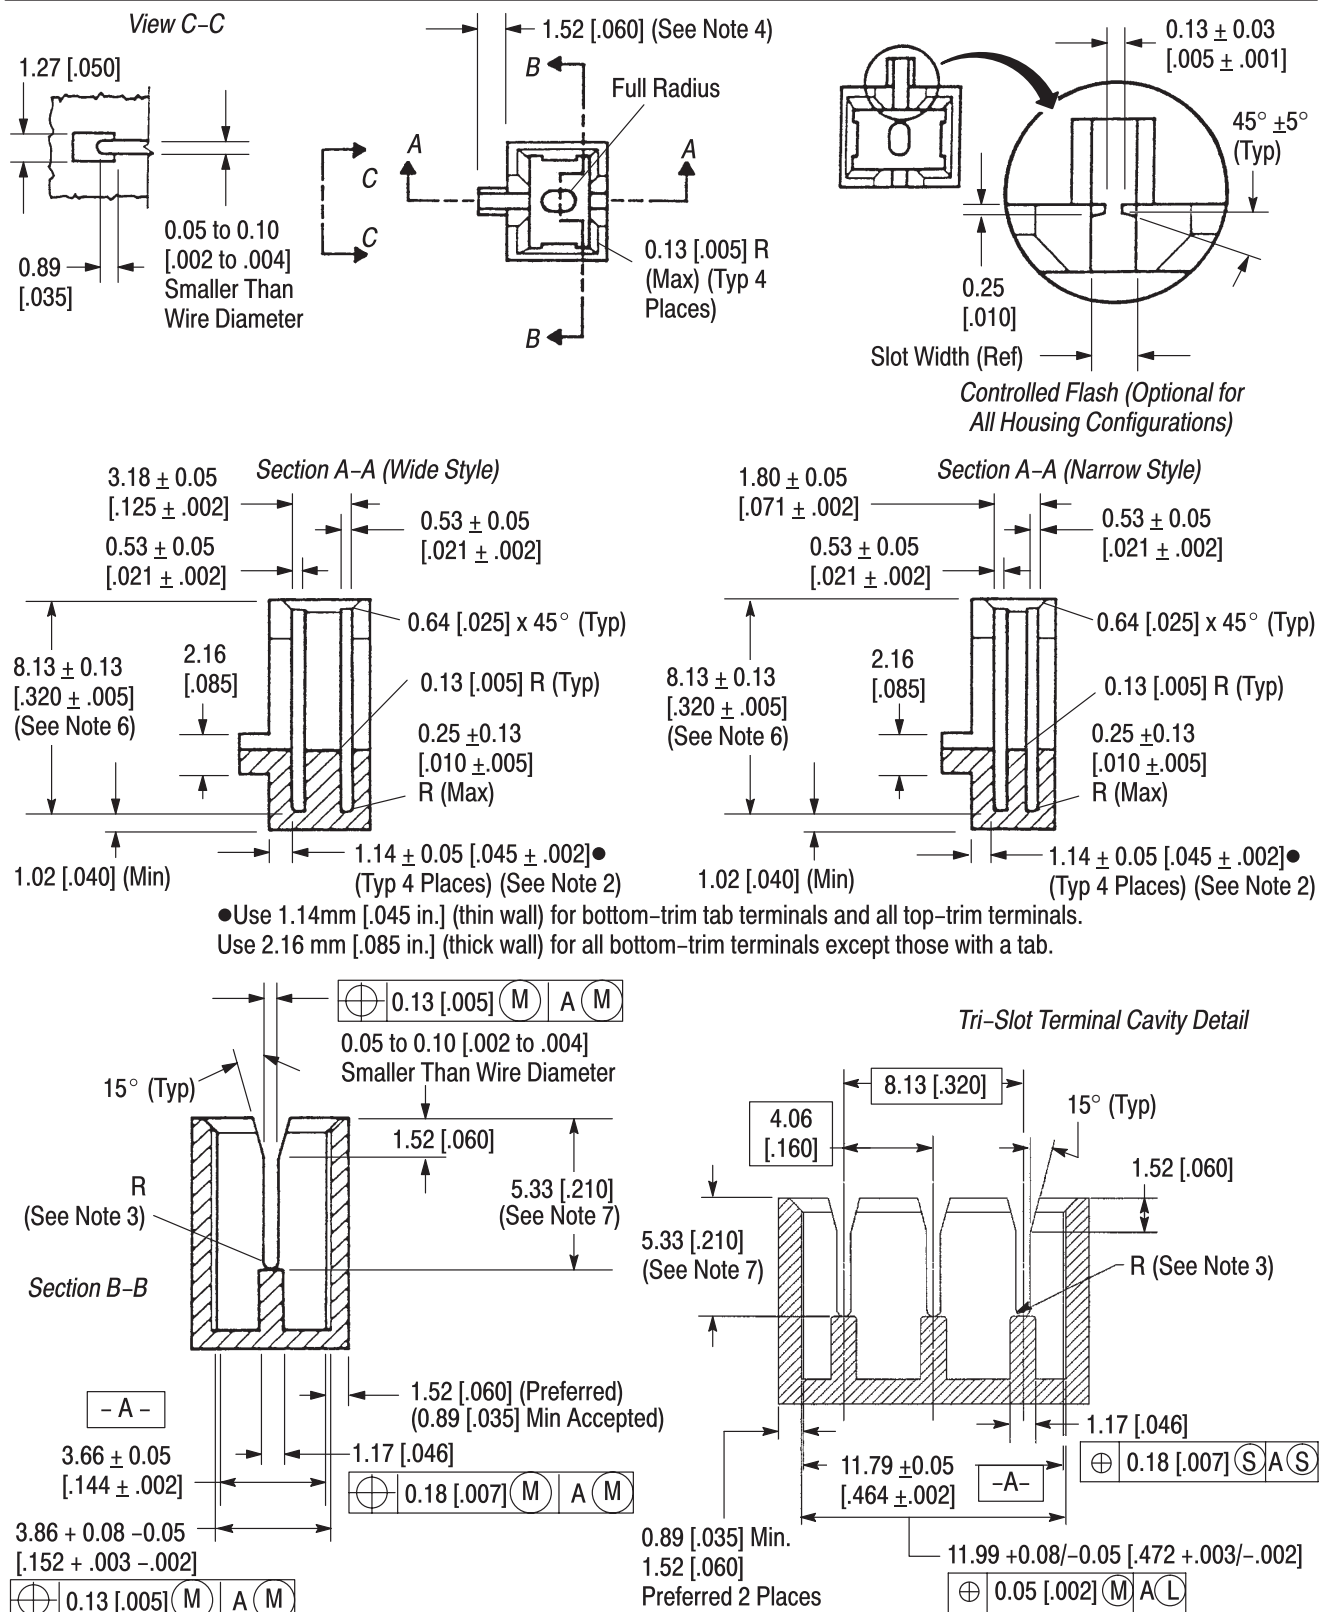
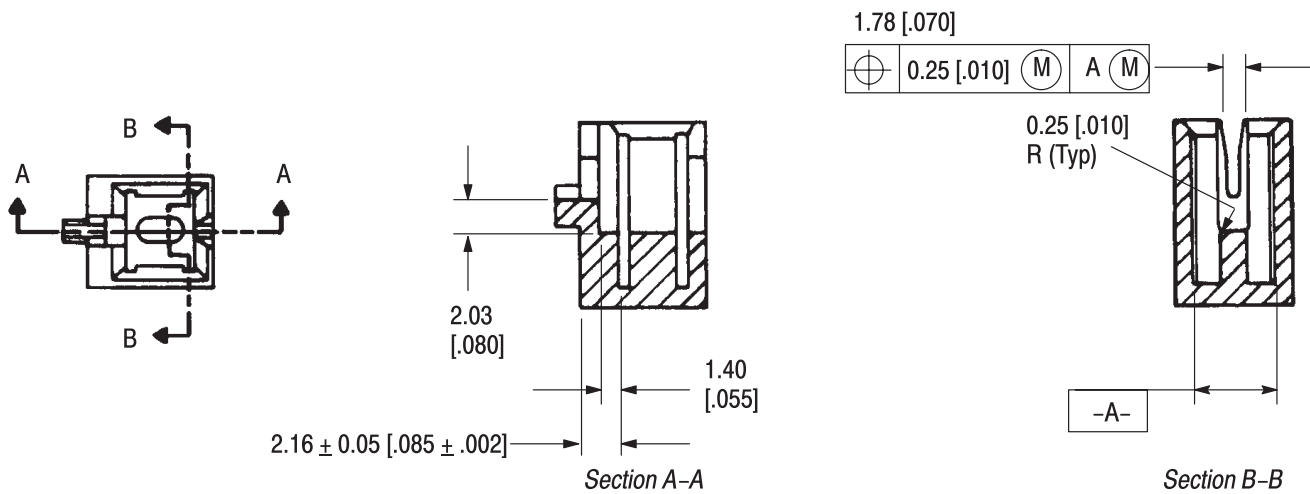
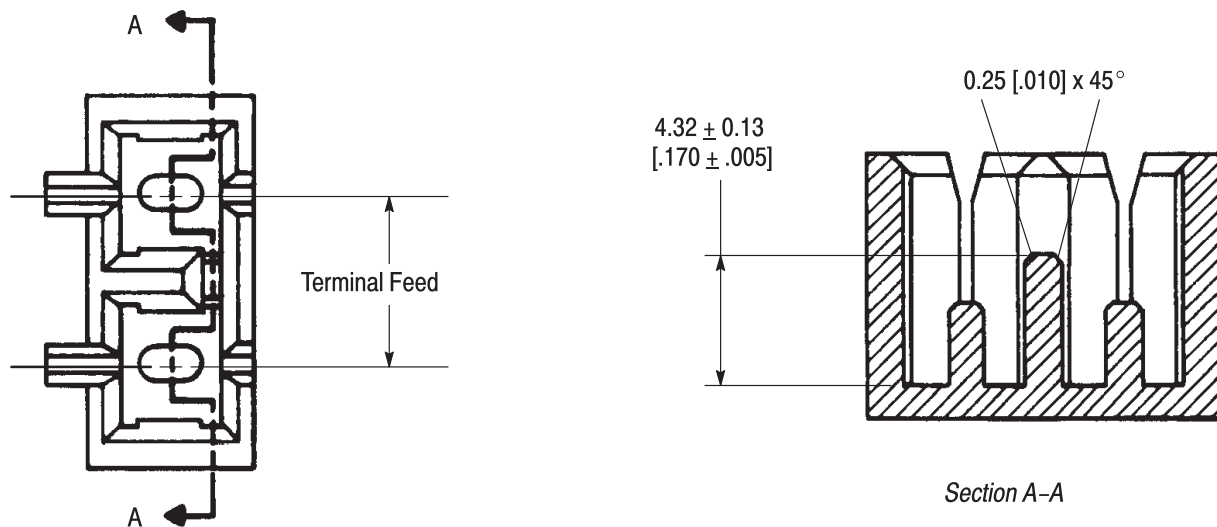

Figure 3
Figure 4
Figure 5
- Changed dimension for (Section A—A Narrow Style) in Figure 3
The external design of the housing will depend on your requirements. Internal cavity designs must conform to the dimensions provided in Figures 3, 4, or 5. Pre-design consultation with Tyco Electronics Engineering is necessary to be sure the cavity configuration will be functional and that it will be compatible with automatic insertion machines.
The following Notes apply to the housings shown in Figure 3:
- (1) Housings must be glass-filled polyester material or approved equivalent.
- (2) The wire trim side of the housing shall have an even thickness to prevent damage to the housing when trimming excess wire.
- (3) Coil windings and other components must not extend above the wire slot or otherwise obstruct seating of the terminal or wire.
- (4) The housing must have a wire trim support if automatic machine insertion is used. It is not necessary for the housing to have a wire trim support if inserting the wire with a hand insertion tool.
- (5) The wire slot may have a controlled flash to provide retention and stability for a broad range of wire sizes.
- (6) For poke-in wire applications: depth of beam slots may be increased to conform with electrical spacing requirements, and strain relief for wire is recommended.
- (7) The given dimension is for a single wire application. The dimension may change for double wire application, in which case, see Customer Drawing of terminal.
- (8) Controlled flash may be used at wire end. See CONTROLLED FLASH detail, Figure 3.
- (9) Features that include draft must maintain the dimension and tolerance over the entire length of that feature.
This housing design has a wire support above the anvil that allows the wire to be cut before the terminal is fully seated. As the terminal is seated, it pulls the wire end down and conceals it in the pocket behind the wire support. All the dimensions given for the exposed wire end cavity in Figure 3 apply, except for those that appear in Figure 4.
Multiple cavity housings can be made with exposed or concealed wire ends and wire slots with or without controlled flash as defined by the dimensions in Figures 3 and 4. They can also be made to accommodate commoned terminals by using a shorter wall between cavities. See Figure 5.